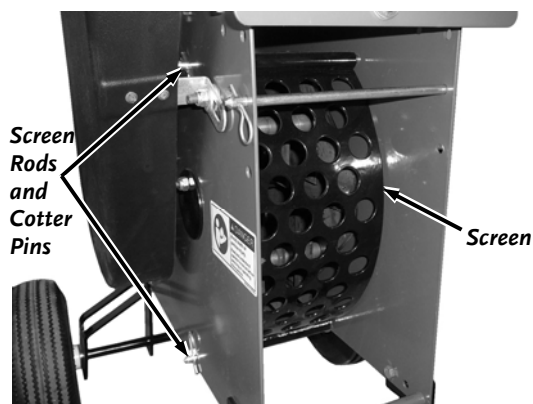

Figure 10
2. Remove the Screen by removing the Cotter Pin on the Screen Rods and then removing the Screen (**Figure 10**). Remove any debris from the Screen.